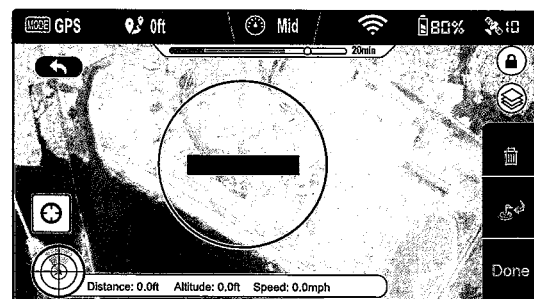

Figure 104
- ⚠ A circle on the map, as shown in Figure 104, indicates a restricted, No Waypoint area. Waypoints cannot be placed in this area. For more information, refer to “6.2 Flight Restriction of Restricted Areas (P30)”.